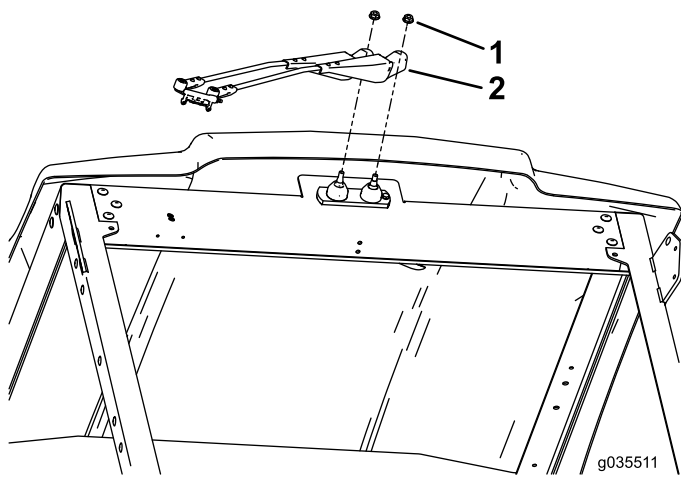

Figure 3
3. Secure the wiper arm with the 2 large locknuts and torque the nuts between 23 to 25 N·m (17 to 18 ft-lb) as shown in Figure 3.